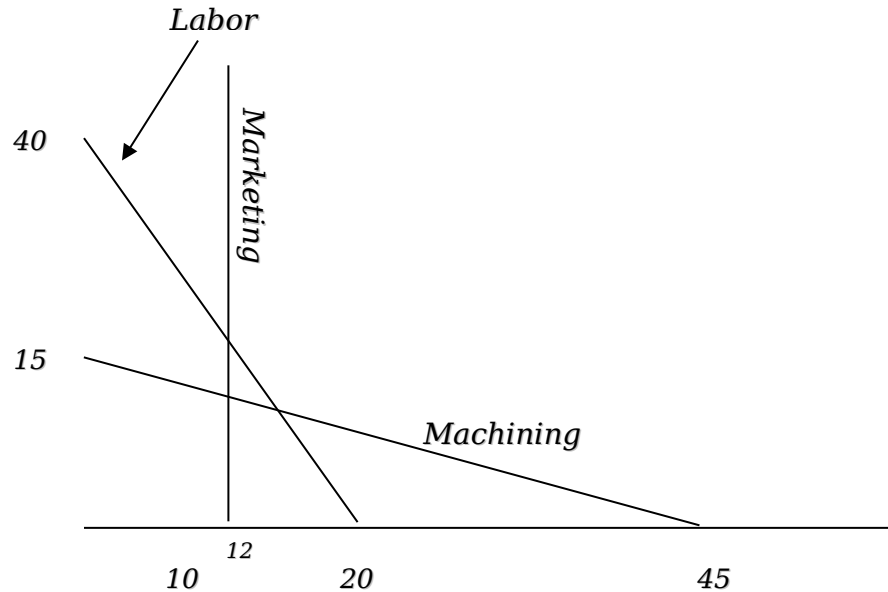

Fig 3.5
3. Determine the feasible solution space - the area that satisfies all of the constraints, and shade it in. (See figure 3.5)